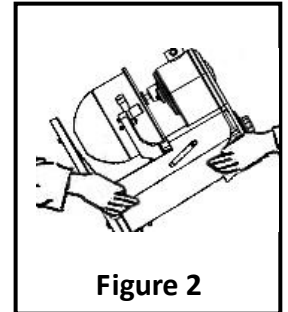

Figure 2
- DO NOT attempt to lift the mixer alone. This machine is 15 kg. The transportation should require two people, please see **Figure 2**